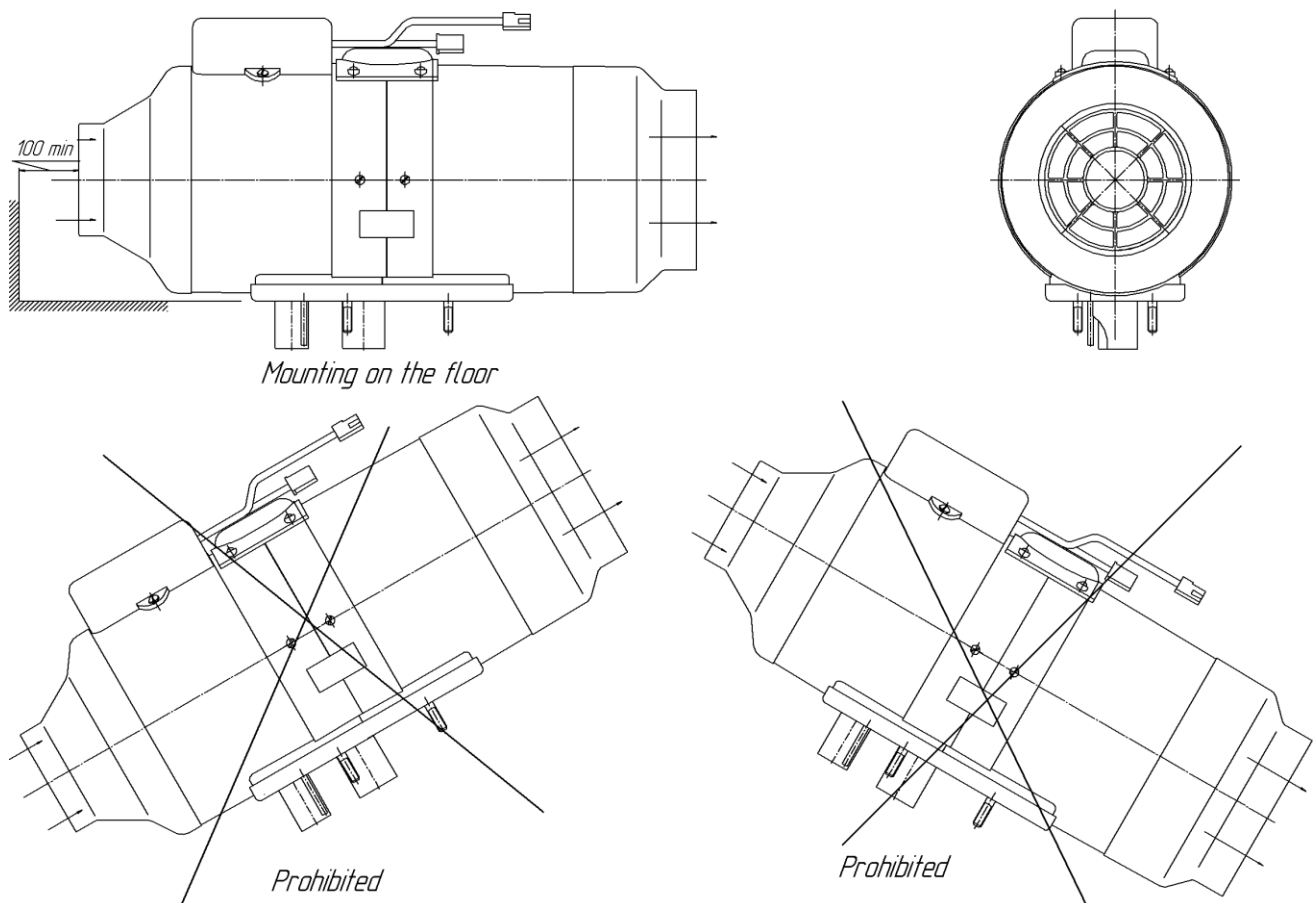
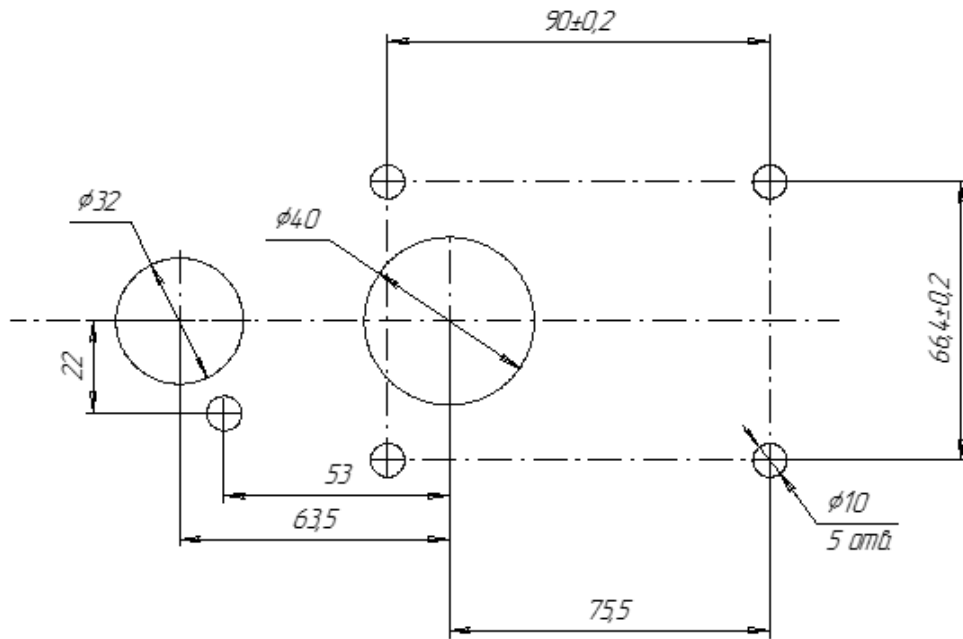

Figure 8.1 – Variants of installation of a heater.
Figure 8.2– Mounting holes used for heater installation
Install the heater according to figure 8.1. Peace of installation for the heater should be flat. Position the heater's inlet vent in such a way to prevent absorption of vehicle/heater exhaust gas in normal operating conditions. The distance between the walls/partitions and the edge of the inlet vent shall be at least 100 mm (see figure 8.1). The distance between the walls/partitions and the edge of the outlet vent shall be at least 250 mm. When assembling or operating the heater, ensure that no foreign objects enter the inlet/outlet vents. Prior to assembly, ensure availability dismantlement requirements, as this will permit easier maintenance in future. At installation of the heater check that its case had no contact both with a floor and with other parts of a cabin or a manned compartment. See figure 8.2 how to position mounting holes to install the heater into the motor vehicle casing (the motor vehicle casing thickness is 3 mm max).
**ATTENTION!! To ensure reliable performance, follow the above recommendations carefully. Install the heater horizontally as shown on the figure 8.1.**